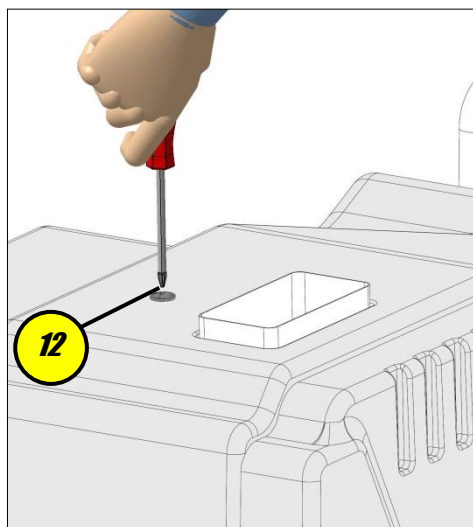

Figure 09
- Reassemble the parts and replace the filter. Replace the protective cover and replace the placeholder screw 12 (fig.09).
- Toggle off all switches and unplug ASTRA STEAMER EVO. After the machine has cooled down remove the protective cover by removing the placeholder screw 12 (fig.09).